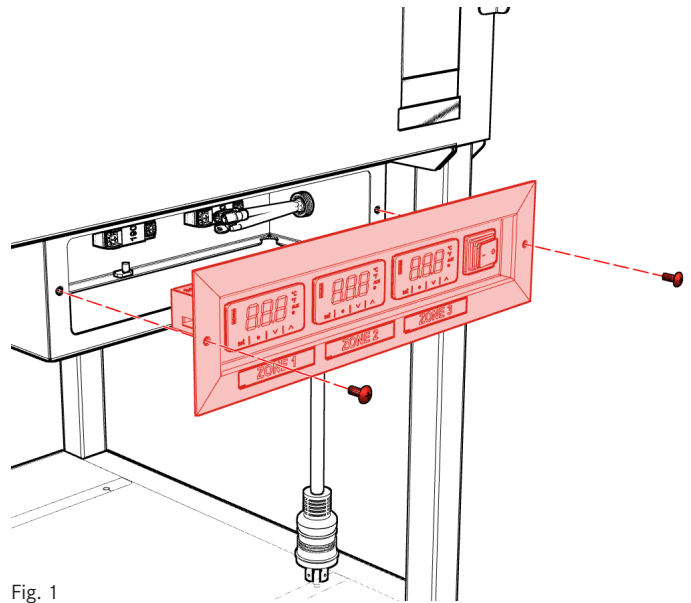

Fig. 1
1. Remove two (2) M5 0.8 × 12 mm screws fastening controller face plate to control module (Fig. 1).